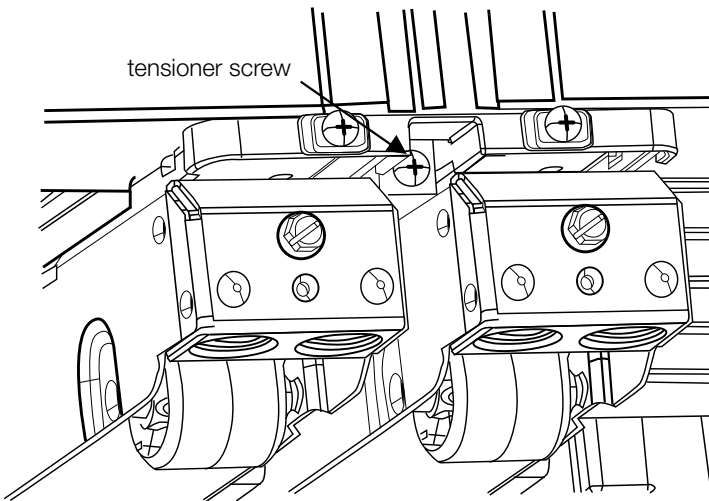

Figure 15
- Adjust the tensioner screw as required. (Fig. 15)